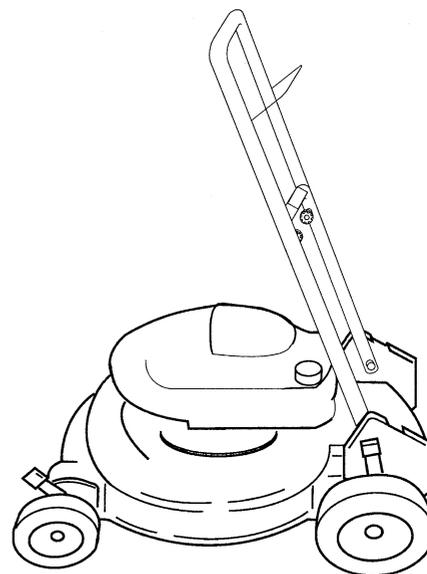

Figure 37
3. For short term storage, place handle in position shown in Figure 37.